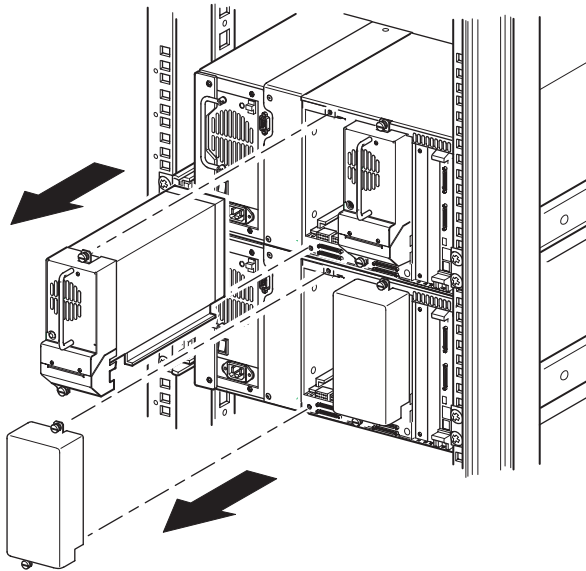

Figure 2-4. Accessing the drive shoe assembly 1 bay
2. Remove the blank panel or drive shoe assembly 1 from the bay adjacent to the PTM cover plate opening (see Figure 2-4).